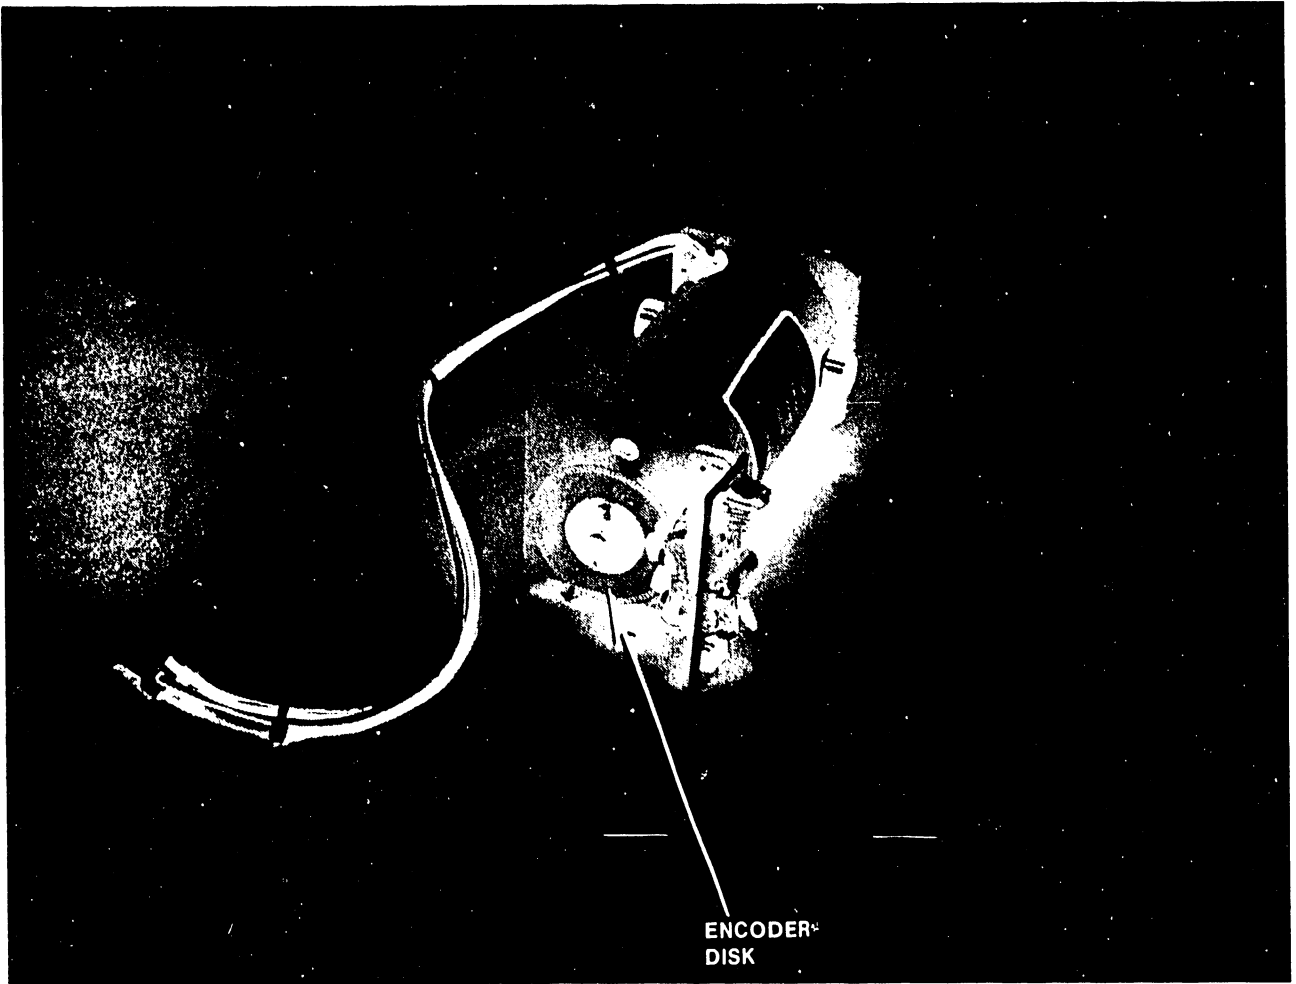

Figure 5-18 Print Head Carriage Drive Motor
5.4.7 Print Head Carriage Drive Motor P/N (279-5233-15) See Figure 5-18.